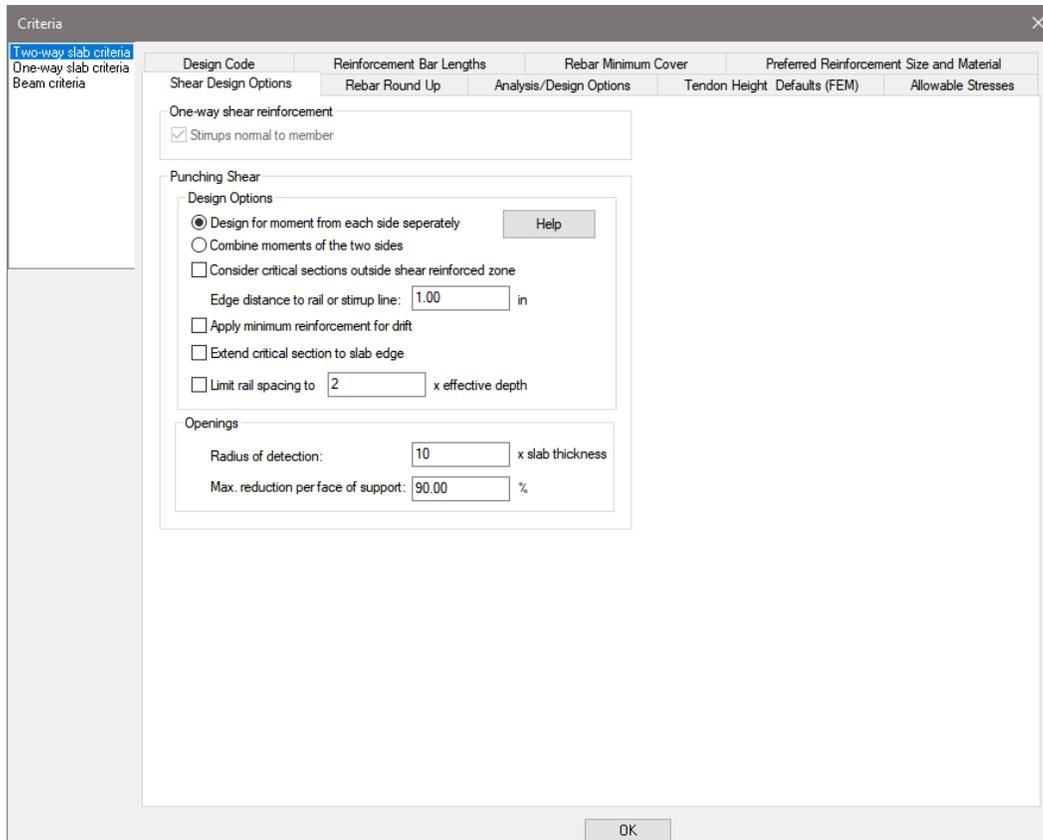

Figure 2-13
- Click on the *Shear Design Options* tab. This will open the window from **FIGURE 2-13**.